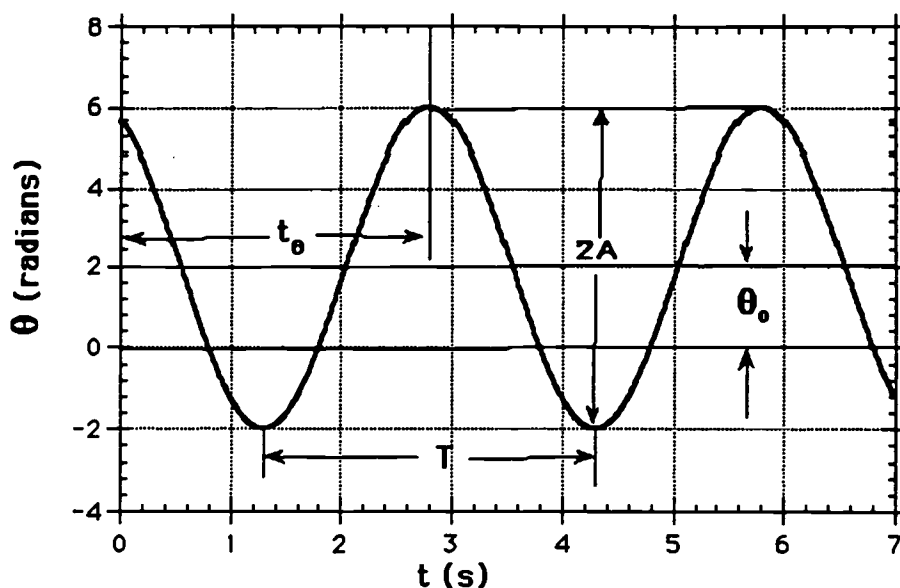

Figure 2: Simple harmonic motion as described by Equation 7, where  $\theta_0 = 2.0$  radians,  $A = 4.0$  radians,  $t_0 = 2.8$  s, and  $T = 3.0$  s.
In Equation 7,  $\theta_0$ ,  $A$ ,  $t_0$ , and  $T$  are all constants of the motion for a given physical situation. An example is shown in Figure 2. When taking measurements from such a graph, it is easiest to measure  $2A$  first and then halve that value to determine  $A$ . Finding  $\theta_0$  involves locating the line of symmetry of the simple harmonic motion, and then measuring the displacement of that line from the zero angular position on the plot. Both the period  $T$  and the time offset  $t_0$  are measured with respect to the peaks or troughs of the cosine function.
The period  $T$  is the period of time required for the cosine wave to repeat itself (refer to Figure 2). In Part I, you will first experimentally measure the period  $T_{disk}$  of the pendulum. Then in Part VI, you will calculate a predicted value  $T_{pred}$  of the pendulum based on two measurements—the moment of inertia  $I_{disk}$  of the pendulum's disk, and the torsion constant  $\kappa$  of the pendulum's wire. Theory predicts that the period  $T_{pred}$  is given by
5. The angular position  $\theta$  will be displayed on the screen as a solid black line as a function of time  $t$ . The curve should look like a smooth sinusoidal wave described by Equation 7 and illustrated in Figure 2. If your data points don't follow a smooth sinusoidal wave, find out what went wrong, and try again.
6. A blue-crossed sinusoidal wave drawn according to Equation 7 is also displayed. Make this wave match the actual data (black solid line) by changing the values of  $A$ ,  $T_0$ ,  $t_0$ , and  $\theta_0$ , that are shown in the lower right of the computer screen. Click on the replot button to replot the blue-crossed sinusoidal wave according to your chosen values of  $A$ ,  $T_0$ ,  $t_0$ , and  $\theta_0$ . (Refer to Figure 2 to approximate the values of  $A$ ,  $T_0$ ,  $t_0$ , and  $\theta_0$ , and then do some fine-tuning to make the blue-crossed sinusoidal wave match the data as closely as possible.)
8. Make a printout of the graph of  $\theta$  versus  $t$ . Mark this printout by hand to indicate where you extracted your values of  $A$ ,  $T_{disk}$ ,  $t_0$ , and  $\theta_0$  (See Figure 2.)
By making measurements on the graph, determine the values of the constants  $\theta_0$ ,  $A$ ,  $T$ , and  $t_0$ . Indicate where you extracted your values of  $A$ ,  $T_{disk}$ ,  $t_0$ , and  $\theta_0$ . Use Figure 2 as a guide.